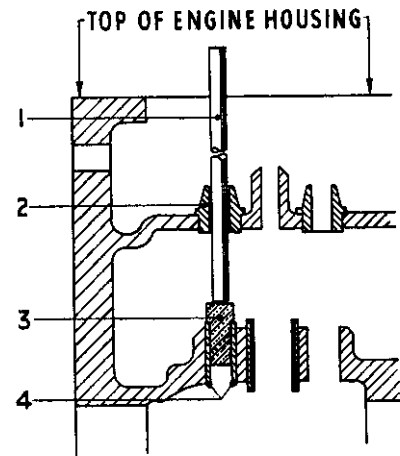

Fig. 1
With drift (3) and bar (1) drive the bush into the hole until the lower end of the bush (4) is within approximately $\frac{1}{8}$ " of being flush (level) with the casting, see Fig. 1.